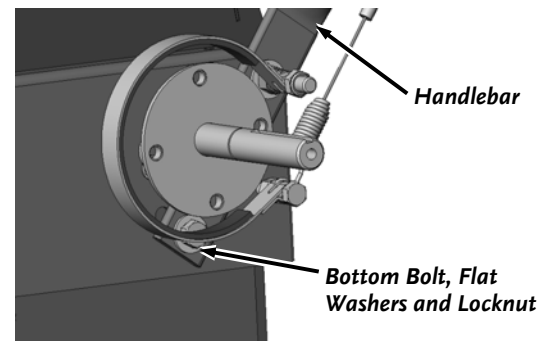

Figure 53
3. Remove the bottom Bolt, Flat Washers and Locknuts from both Handlebars with two 9/16" Wrenches and just loosen the upper Hardware (**Figure 53**).